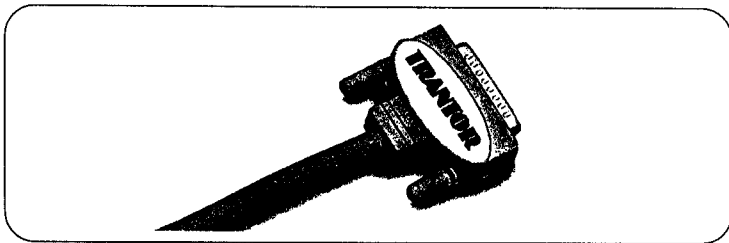

Figure 1 Parallel Connector
1. Connect your **MiniSCSI Plus** parallel connector (see *Figure 1*) to a parallel printer port on your computer; you may use either LPT1, LPT2 or LPT3—the **MiniSCSI Plus** will automatically detect which port is in use.